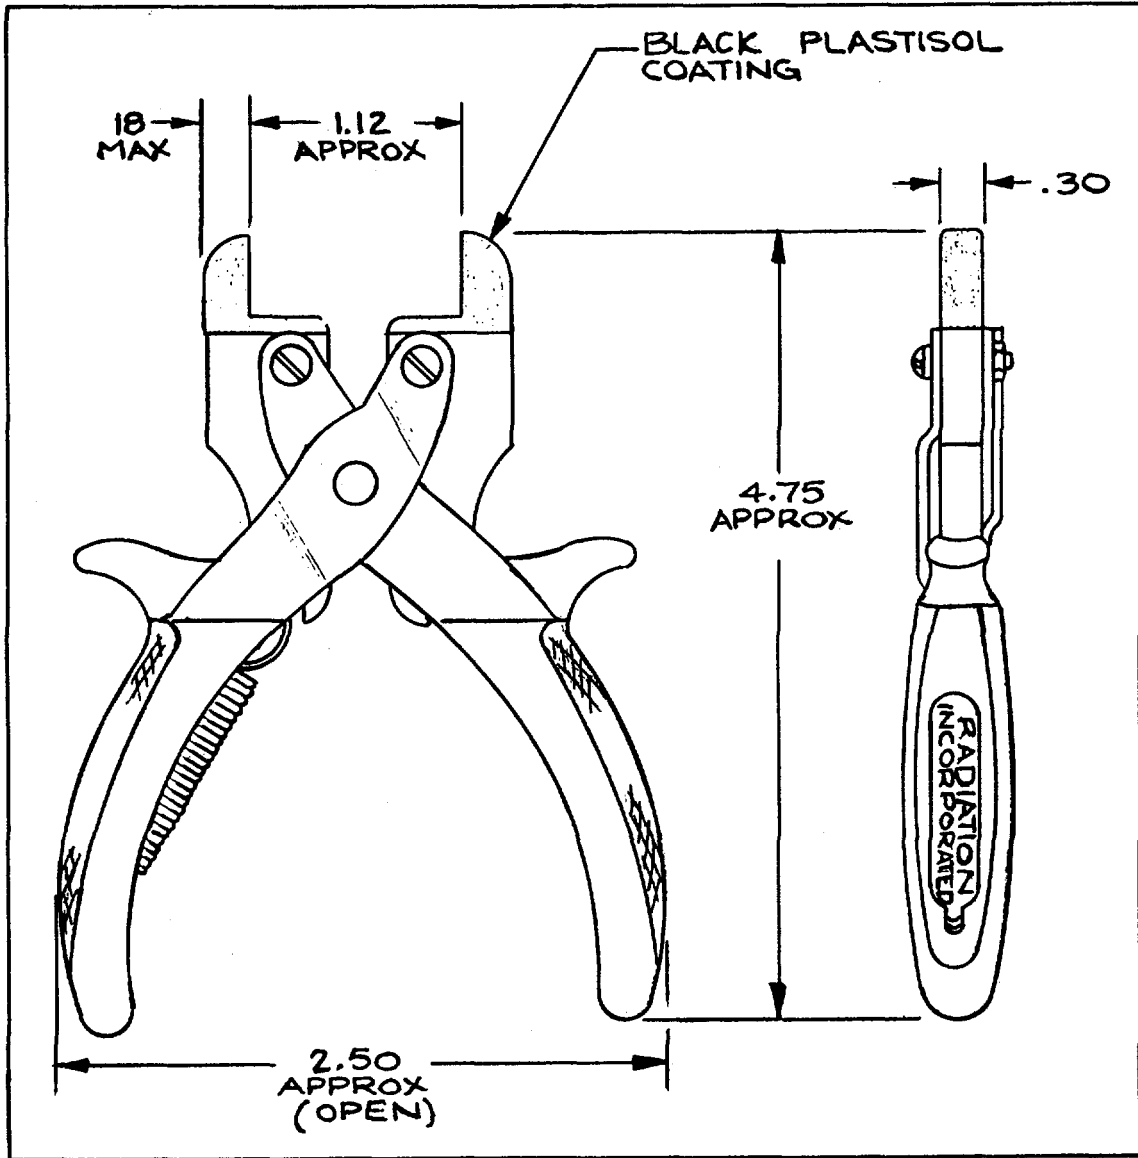

Figure 1-2. Module Remover, Model 106338-1
(1) Module Remover, Model 106338-1 (Figure 1-2)